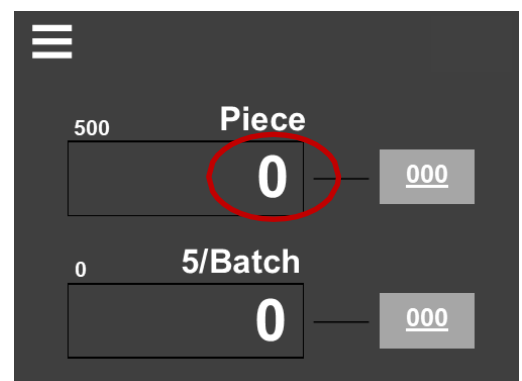

Figure 8.4.9
- The crimping process can only be continued after the piece count has been subsequently zeroed out. See Figure 8.4.9.